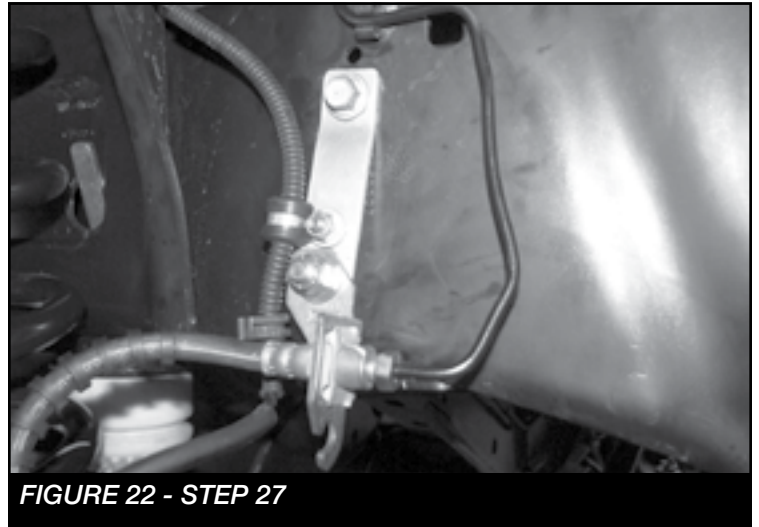

FIGURE 22 - STEP 27
27. **(PASSENGER SIDE)** Install FT30659 (Brake line bracket) to the factory brake line tab using the supplied 3/8" hardware (Use lower hole). Next, using the supplied rubber clamp and 1/4" hardware, attach the ABS line to the upper hole on the FT30659 bracket. Re attach to the frame using the factory hardware. Torque 3/8" & factory hardware to 52 ft-lbs. Torque 1/4" hardware to 14 ft-lbs. **SEE FIGURE 22**